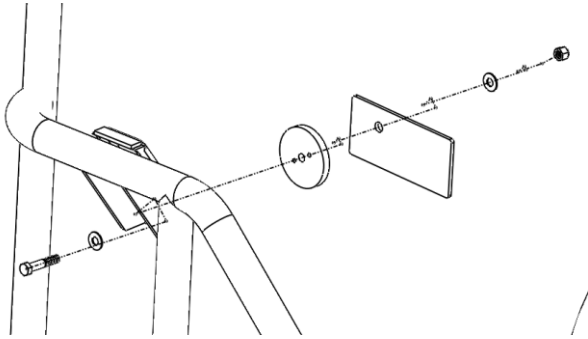

Figure 5: Center Mount Hardware Assembly (No Door Shown)
- 17. Use the inner door bracket and door backing plate when installing the center mount (reference Figure 5 & 6).